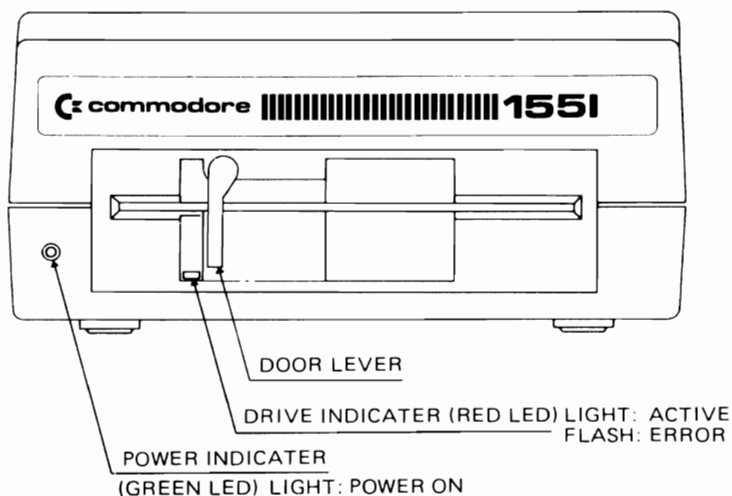

Figure 1. Front Panel
- Figure 1: Front panel**
To check whether the drive is empty, simply rotate the lever on the front of the disk drive counter-clockwise until it stops (see Figure 1), one-quarter turn at most. Then reach inside the long slot the lever covers when it points down, and pull out the cardboard shipping spacer inside. Don't throw it away. You will want to put it back inside the slot any time you move or ship the disk drive later.